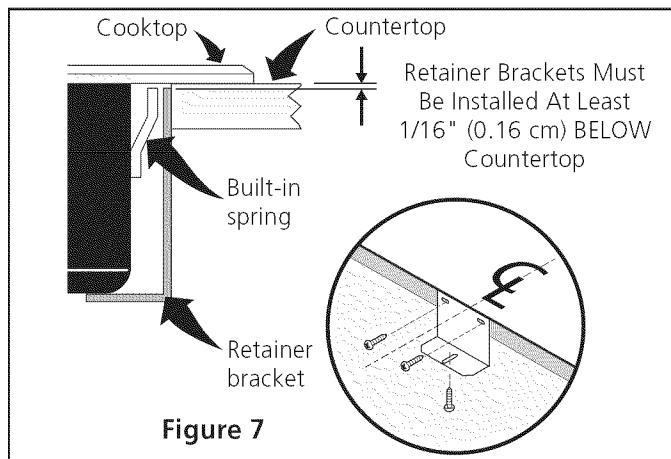

Figure 7
2. Install the retainer brackets (See Figure 7).
The retainer brackets **MUST** be installed, to meet local codes or, in their absence, with the National Electrical Code ANSI/NFPA No. 70—latest edition, or with CSA Standard C22.1, Canadian Electrical Code, Part 1 (see Figure 7 & 8).